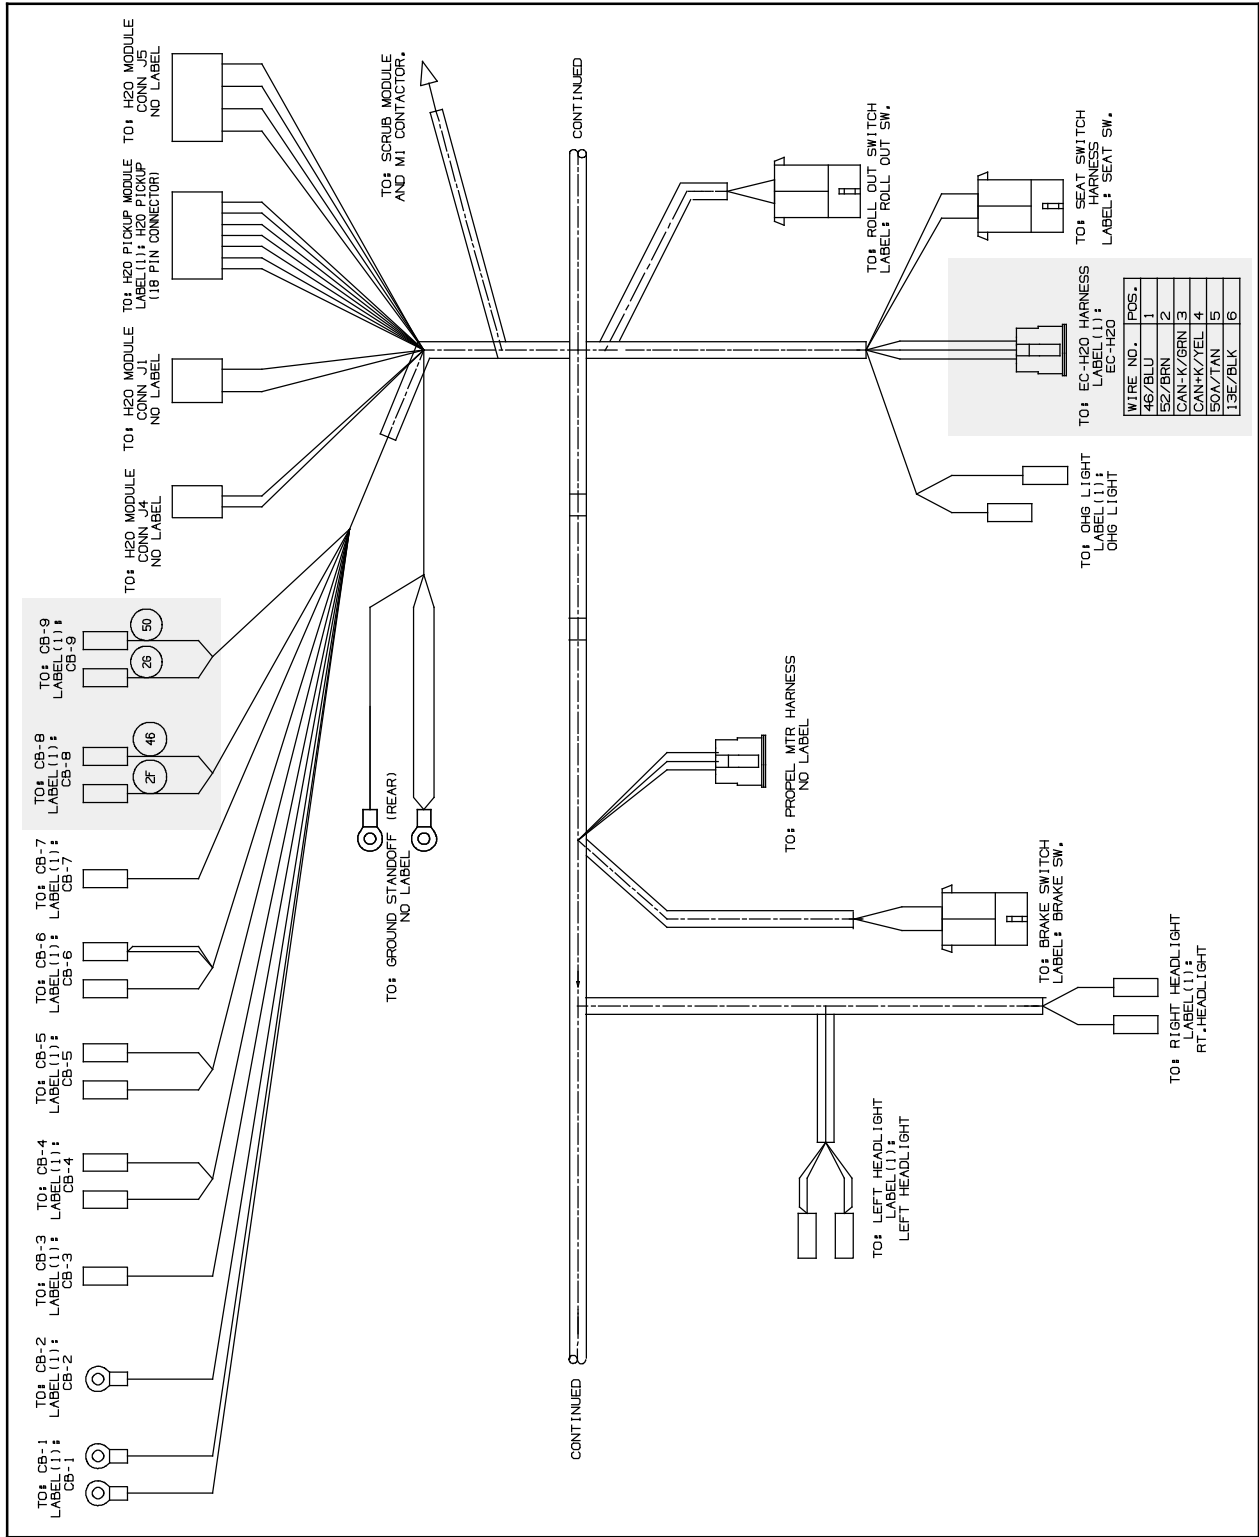

FIG. 52
55. Connect the main wire harness to the 2.5-amp circuit breakers (40). (Fig. 50 / Fig. 52)